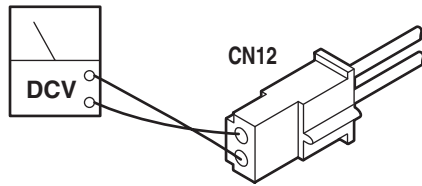

Figure 7-25. Motor Input Voltage
2. Activate any function and use a DC voltmeter to measure across the two pin connector. Pin 1(+) and pin 2(-). See figure 7-25. Meter should read 24-28 volts.